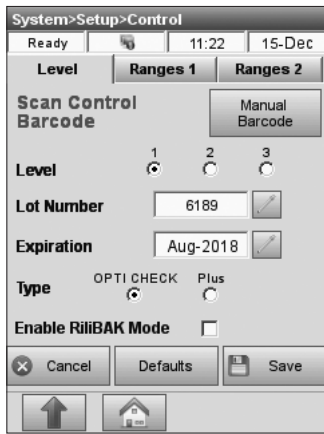

Fig. 3-8 Confirm Lot Information
7. Confirm lot number, expiration date and control type on the package insert supplied with the control material (Fig. 3-8). If the bar code is unavailable, press **<Manual Barcode>** and enter the control information manually. Users should not enter control limits manually prior to scanning or manually entering the control barcode information.